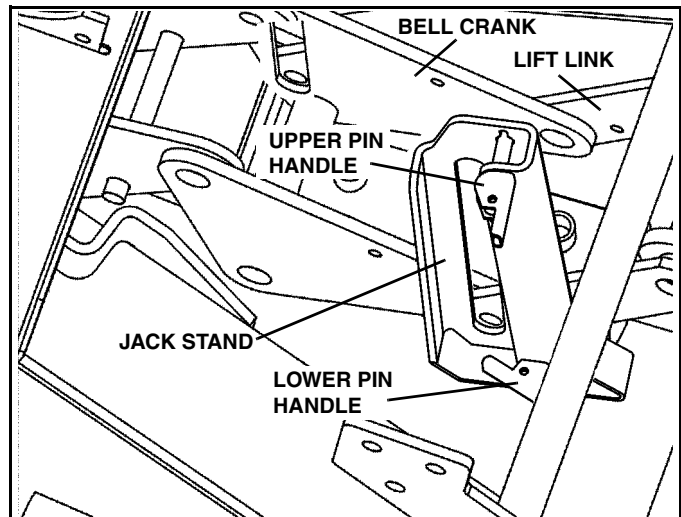

Figure 1-4
6. Disengage both jack stand pins by pulling on handles. Raise the jack stand and engage the bottom pin by pushing on the handle. Make sure pin is engaged in hole by rotating jack stand back and forth. (See Figure 1-4).